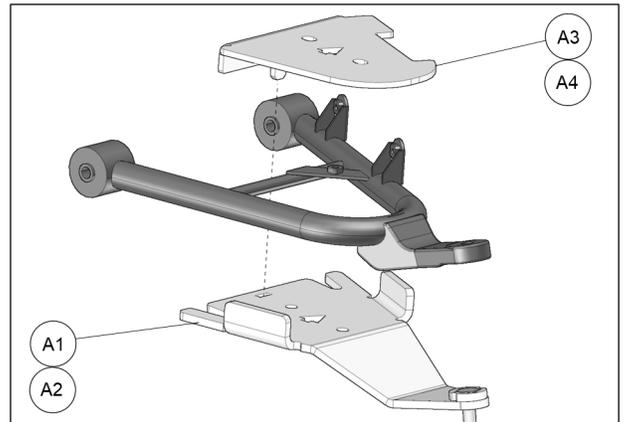

Fig. 17
5. Position bottom part of anchor bracket (A1-A2) under lower suspension arm. Position top part (A3-A4) over suspension arm and insert tenon in mortise cut in bottom part. See Fig. 17